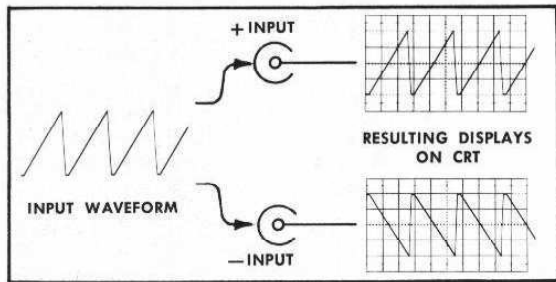

Fig. 2-9. A signal applied to the + INPUT connector produces an upright display, while a signal applied to the - INPUT connector is inverted.
+INPUT	Signal input connector. Positive input produces upward deflection. See Fig. 2-9.
-INPUT	Signal input connector. Positive input produces downward deflection. See Fig. 2-9.